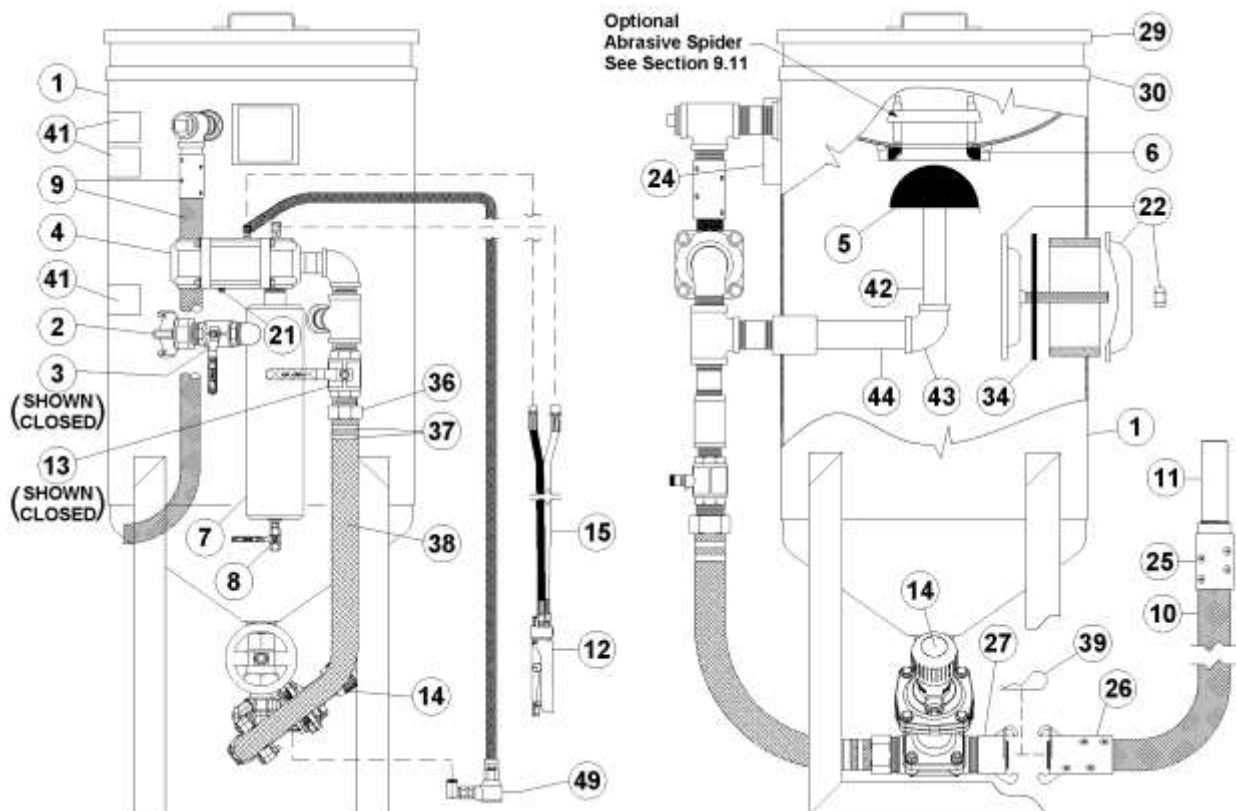

Figure 6.3 – TeraValve™ /Combo Abrasive Blaster with pneumatic blast controls
- 6.3.3. Close the air inlet ball valve (#3) to disable the blaster and the deadman blast control. The ball valve is closed when the handle is fully turned to the position shown in Figure 6.3 (handle perpendicular to body). **Note:** A faulty ball valve may allow air flow even in the closed position. Confirm air flow is stopped by opening the drain ball valve (#8) or by loosening the twinline connection (#18) to check for air flow. Replace faulty ball valves.